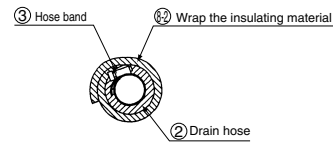

Figure 16
- (5) Insulate the drain hose ② fixed by the procedure (4) using the attached insulating material ②. Wrap the entire surface over the hose band on the drain hose. (Figure 16)